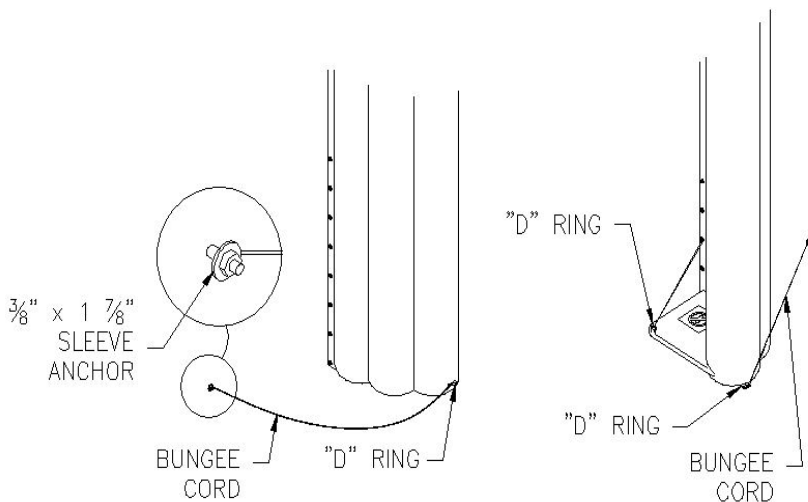

FIG. 4A
**Note: RUN BUNGEEES UNDER THE VERTICAL BAGS SO THAT THE BUNGEE CORD DOES NOT PRESS ON THE FACE OF THE INFLATABLE (Figure 4A).**